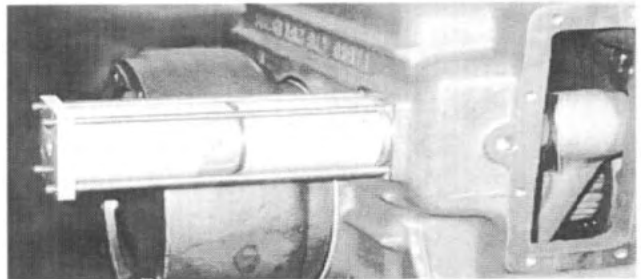

Fig. 99
37. If equipped with neutral, Install the outer half of the shift cylinder onto the high-low shift cylinder. Secure the assembly with four (4) 1/4-20 studs and nuts. Torque to specification. See Fig. 99.